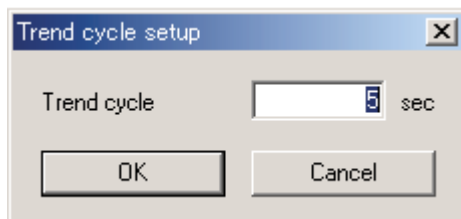

Figure 5.4.1 Trend Data Cycle Dialog Box
- (1) From the status display bar, double-click **Trend cycle**, or from the menu bar, choose **Multi-monitor**, then **Change trend cycle** while trend display is working or stopped.
- (2) The Trend Cycle dialog box (Figure 5.4.1) appears. The setting range is 1 to 3600 sec. The initial value is 5 sec.
- (3) Change the trend display cycle, and then click **OK**.